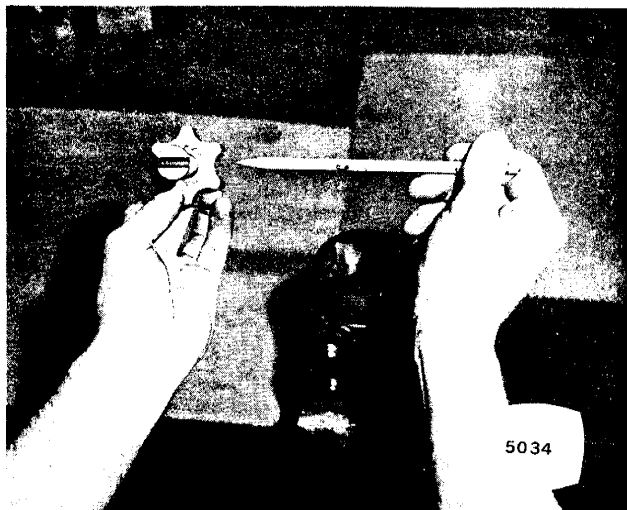

Figure 3-33. Gerotor Alignment
- Position seal (18) and the cap locator bushing (17) (with large O.D. chamfer up) partly into end of housing, insuring that it seats flat against spool assembly. Check by rotating with finger tips.
- Check the mounting plate (14) and shaft seal (16) carefully to insure that they are clean and in good condition. Insure that the mounting plate seal grooves are clean and smooth. (Each of these seals is slightly larger than its seal groove so that they will be adequately retained in service.) Push each gently into place and smooth down into seal groove with finger tip.
- Thin oil seal (15) at exterior of mounting plate is a dirt exclusion seal and does not usually need replacement. If this is replaced it should be pressed into counterbore so that the lip is directed away from the unit.
- Place the mounting plate sub-assembly over spool shaft and slide down into place over cap locator bushing smoothly, so that seals will not be disrupted in assembly. Align bolt holes with tapped holes. Be certain that the mounting plate rests fairly flush against end of housing assembly, so that the cap locator bushing is not cocked, and install four mounting plate cap screws (13). Tighten evenly and gradually to a torque setting of 250 pound-inches.
- Place the plate (7) on the housing and align the plate bolt holes with the tapped holes in the housing.
- Place the meter gear ring portion of the gerotor set (6) on the assembly and align the bolt holes.
- Insert the splined end of drive shaft (9) into the meter gear star portion of the gerotor set (6) so that the slot at the control end of the drive is in alignment with the
- valleys between the meter gear teeth (see figure 3-33).